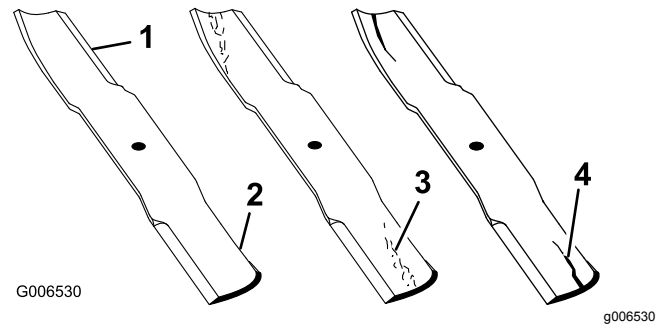

Figure 51
1. Inspect the cutting edges (Figure 51).
2. Inspect the blades, especially the curved area (Figure 51).
Note: If you notice any damage, wear, or a slot forming in this area (items 3 and 4 in Figure 51), immediately install a new blade.